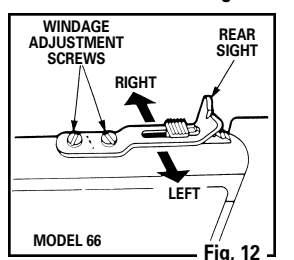

Fig. 12
- The rear sight may also be adjusted to shoot right or left (windage). Loosen the windage adjustment screws by turning them counterclockwise. Move the sight to the right to make the BB or pellet hit to the right on the target. Move the sight to the left to make the BB or pellet hit to the left of the target. Then tighten the windage adjustment screws by turning them clockwise (Fig. 12).